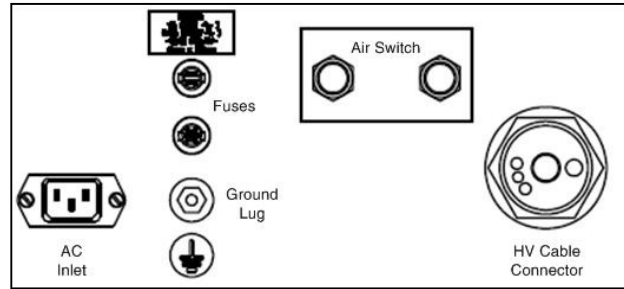

Figure 4: 9060 Connection Interface
The 9060 Controller connection interface shown in Figure 4, provides all of the required connections for setting up a No. 2 Process Handgun painting system. This connection interface consists of one (1) high voltage cable connector, one (1) ground lug connection, one (1) air flow switch connection, two (2) fuses, and one (1) AC inlet receptacle.